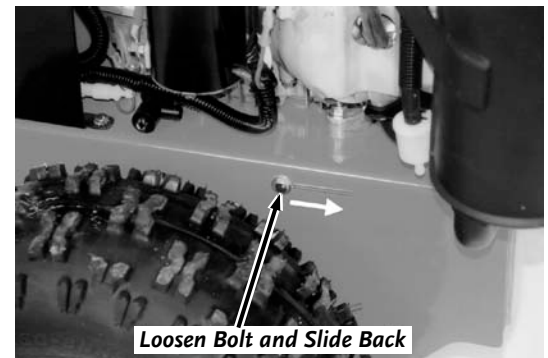

Figure 22
- Loosen the Belt Retainer Bolts on the outside of the Frame (one on each side) and slide the Retainer back (**Figure 22**).